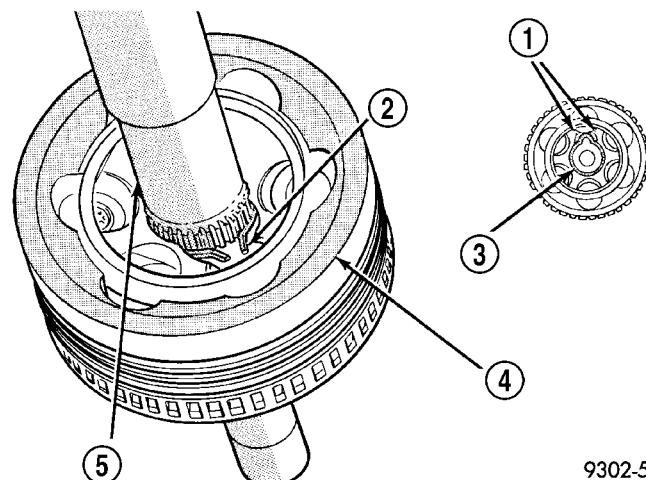

Fig. 31 Outer C/V Joint Removal From Interconnecting Shaft
(3) Wipe away grease to expose outer C/V joint to interconnecting shaft retaining ring. Spread ears apart on C/V joint assembly to interconnecting shaft retaining snap ring (Fig. 31). Slide outer C/V joint assembly off end of interconnecting shaft.
(4) Slide failed sealing boot off interconnecting shaft.
(5) Thoroughly clean and inspect outer C/V joint assembly and interconnecting joint for any signs of excessive wear. **If any parts show signs of excessive wear, the halfshaft assembly will require replacement. Component parts of the halfshaft assemblies are not serviceable.**